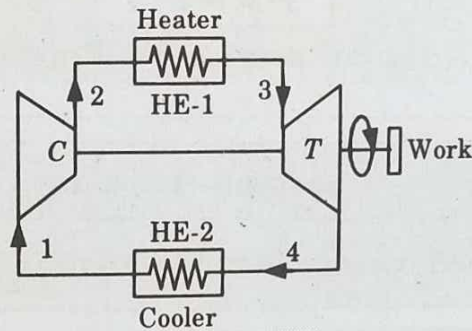

Fig. 5.2.1.
2. The basic components of a Brayton cycle are shown in Fig. 5.2.1.